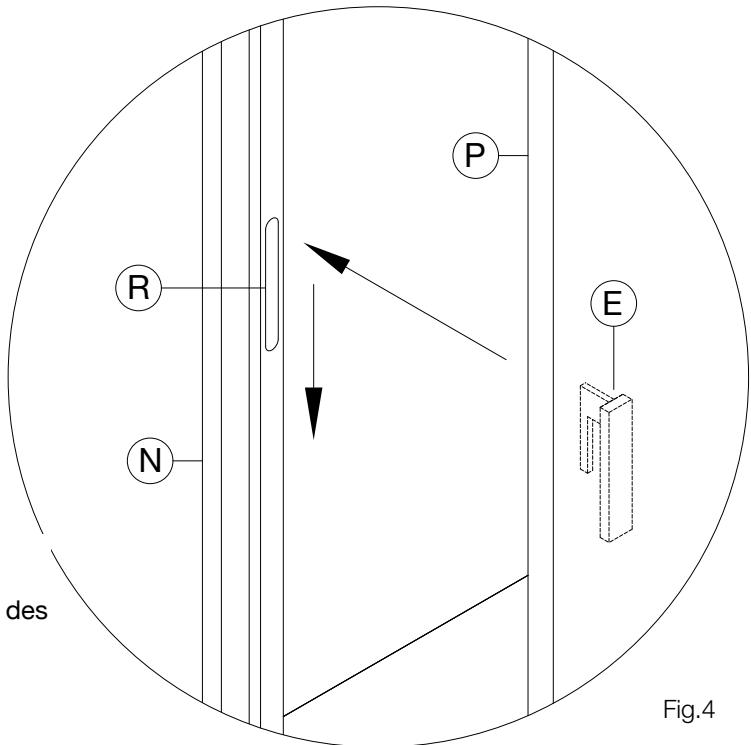

Fig.4
Appicare l'anta (P) alle guide di scorrimento (N) agganciando i n°4 ganci (E) alle asole (R) ricavate sulle guide di scorrimento (N) (fig.4).
Fix the door (P) on the sliding guides (N) hanging the 4 hooks/E/ into the loops (R) which are present on the sliding guides/N/. (fig.4)
Fixez la porte (P) aux guides de glissement (N) en insérant les 4 crochets (E) dans les oeillets (R) des guides de glissement (N) (fig. 4)